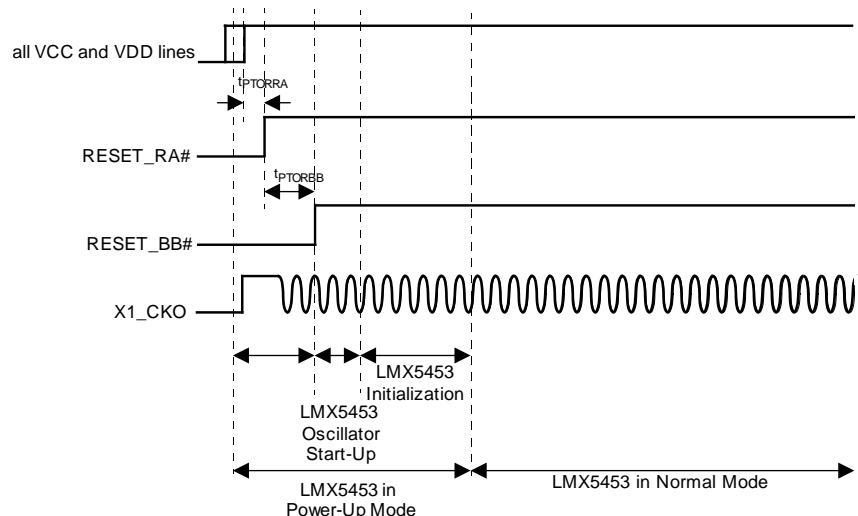

Figure 10. LMX5453 Power-On Reset Timing
3. Then RESET_BB# should be driven high at a recommended time of 1ms after the LMX5453 voltage rails are high. The LMX5453 is properly reset. (See Figure 10).